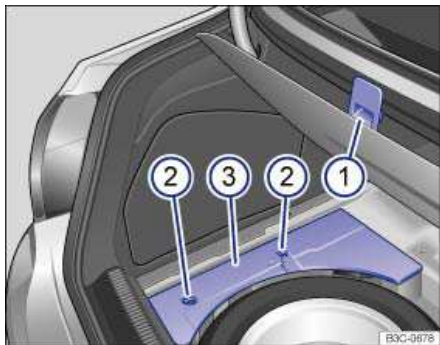

Fig. 179 In the luggage compartment underneath the floor panel 1: Spare tire and cover 3 for vehicle tool kit.
In a foam insert under the floor cover:	– Secure the floor cover on the top edge of the luggage compartment ⇒ fig. 179 (1). – Rotate the quick-release fasteners (2) 90° to remove the cover (3) of the vehicle tool kit.